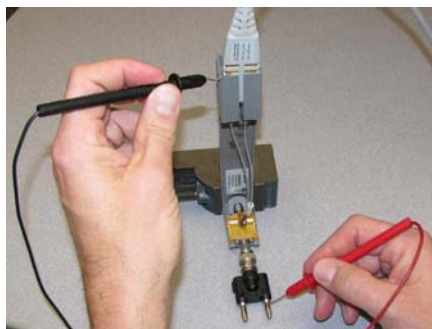

Figure 106 Measuring the Single-Ended Input Resistance the Solder-In Probe Head
- 7 To measure the single-ended input resistance, measure the resistance between the signal plug of the banana adapter and the probe amplifier ground, which can be accessed as shown in **Figure 106** (through the vent window of the probe amplifier).